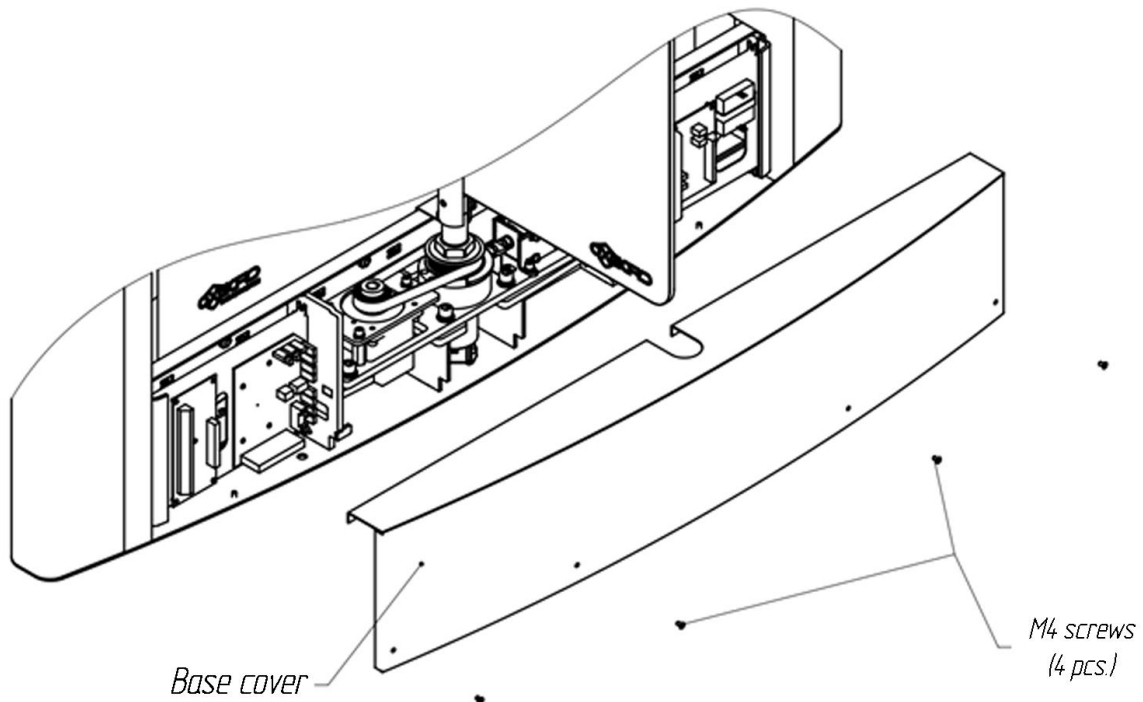
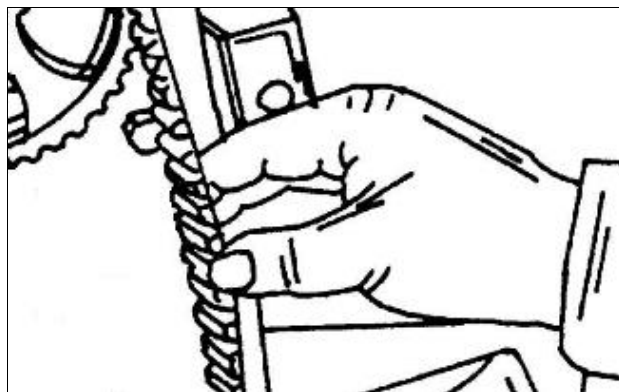

Fig.2
Fig. 3
- 4.4. Check the condition of the toothed belt and its tension (Fig. 2). Correctly tensioned belt should be rotated through an angle of 45° from the fingers effort (1.5-2.0 kg / 15-20 H) (Fig. 3).